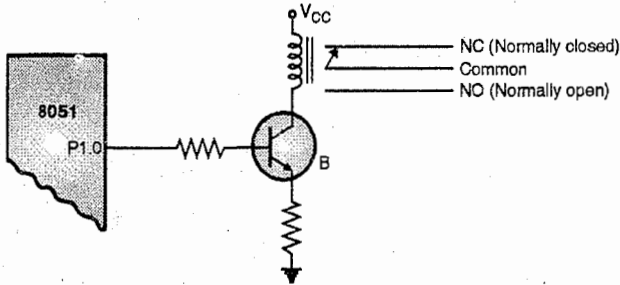

Fig. 3.5.1 : Interfacing relay with 8051 diagram
- Fig. 3.5.1 illustrates the symbol of relay and interfacing of a relay with 8051. Simply making the pin '0' or '1' will switch ON/OFF the relay.